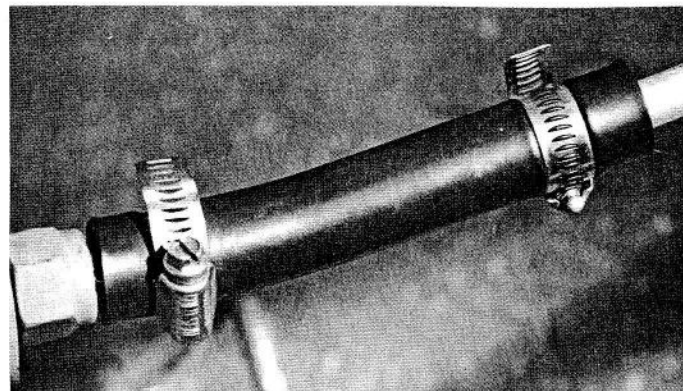

Figure 31
The Snowblower Drive Housing mounts to the front of the Tractor, the same as other Gravely power Attachments. When attaching to the Tractor, the Chute Control Crank should be attached to the top Sprocket Housing Shaft of the Snowblower with the Rubber Connector and two (2) Clamps which are provided. See Figure 31.